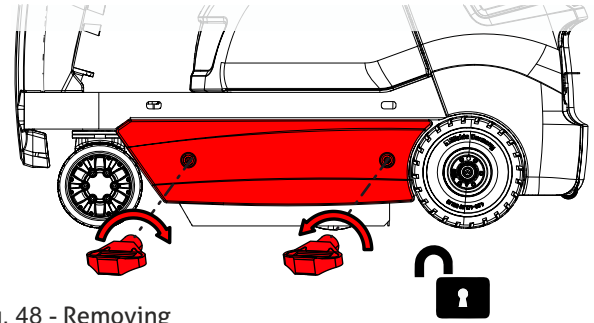
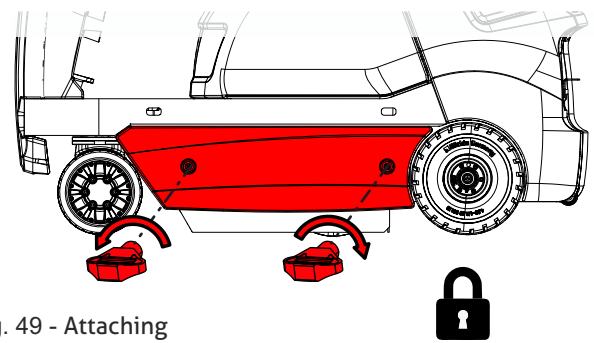

Fig. 48 - Removing
Fig. 49 - Attaching
Remove side cover by unlocking with the wrench, right side anticlockwise, left side clockwise (Fig. 48). Attaching is done in precisely the opposite way. (Fig. 49)
- Remove the side cover (Ch. 7.4 Fig. 48 + 49)